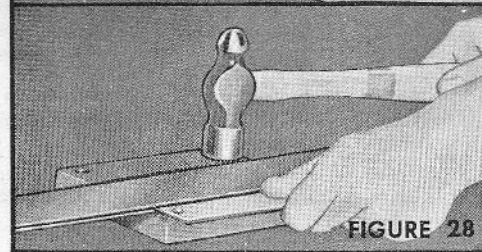

FIGURE 28
4. To carry out minor repairs such as a pinched bar, enter one corner of the tool in the groove near the pinched section, then tap the tool with a light hammer until the entire length of the gauge enters into the groove. While in this position lightly tap along the bar rail which will straighten out the pinch and give chain clearance. (Figure 28).
A further use for the side of this tool is to close up the rails to correct groove width, as illustrated, for proper chain performance. This overcomes chain weave and rapid deterioration of both the bar and chain. (Figure 28).